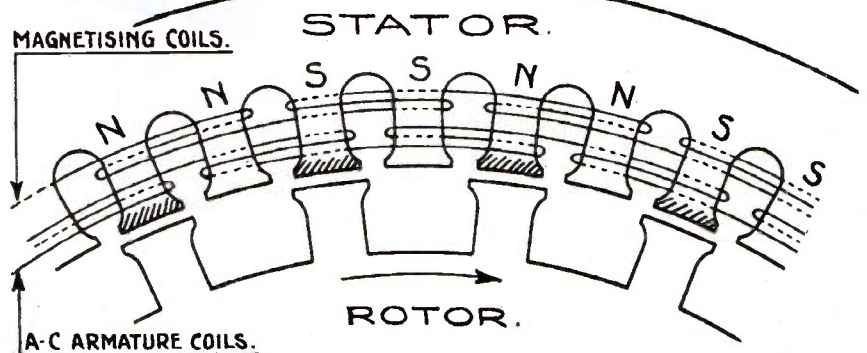

Figure 67. Stator and rotor of Osnos alternator, note that stator has two pole pieces to one on the rotor.
M. Osnos's alternator was similar in design to the Alexander machine but each stator pole had two teeth per pole whereas the rotor had only one tooth per pole. The effect was that of increasing the number of pole pieces - see Figure 67.